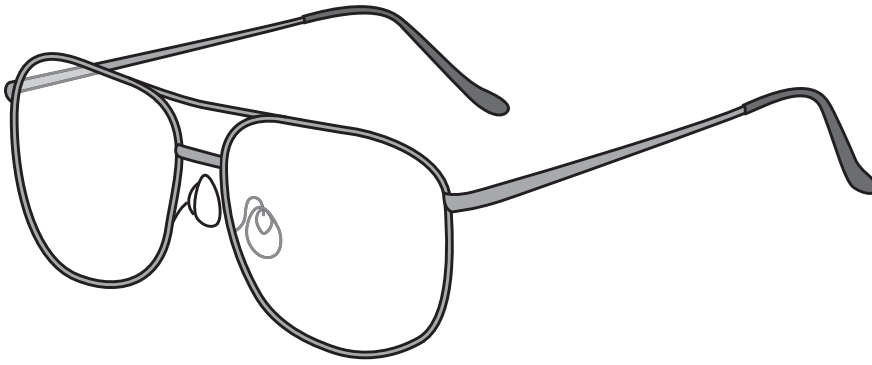

Fig. 3.1
- 3 Fig. 3.1 shows a pair of glasses which can be used to correct poor eye sight when reading.